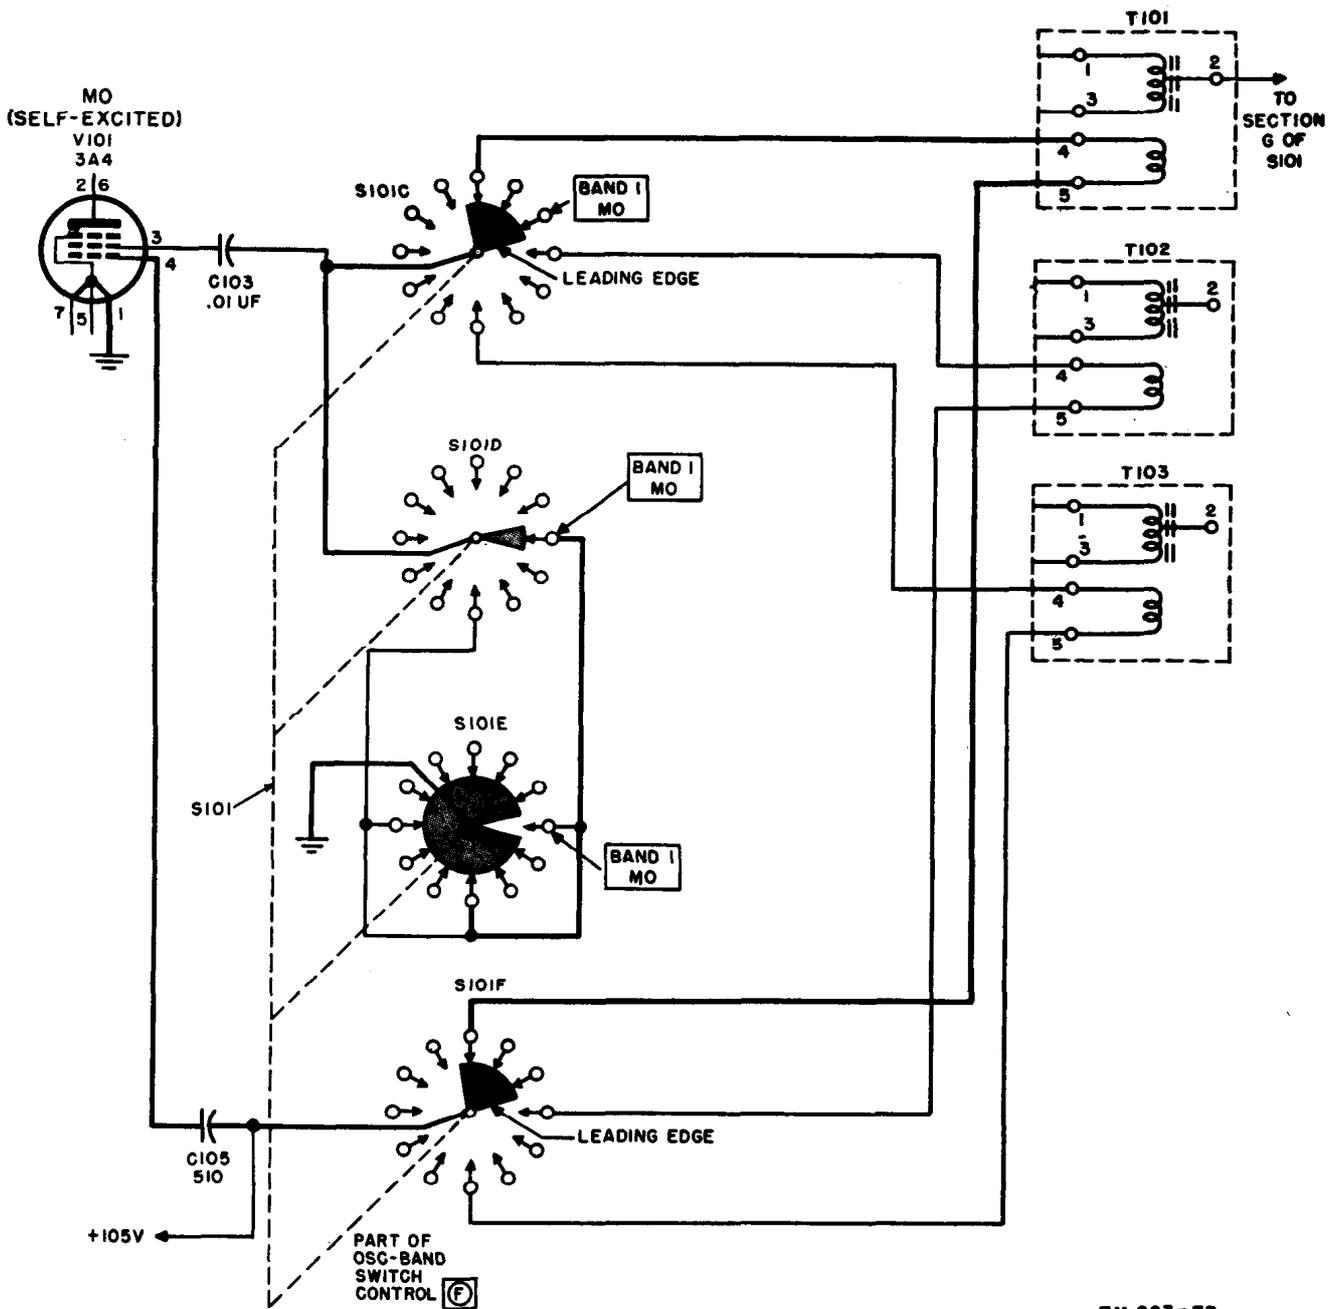

Figure 72. Mo (self-excited), switch sections S101C, S101D, S101E, and S101F, simplified schematic diagram.
- (3) *Switch section S101C* (fig. 72). Section C of S101 selects the proper grid circuit coil for the frequency selected. This is done in conjunction with switch sections S101D, S101E, and S101F which connect the coil selected to the grid by capacitor C105. Since the entire bank of switches is ganged, the grid coil is automatically connected to the grid circuit. By following the weighted line, starting at the control grid of V101, the entire grid circuit path may be traced through the various switches.
- (4) *Switch section S101D* (fig. 72). Section D of S101 connects the bottom (cold) end of the grid coil to ground through section E, as shown in the figure.
- (5) *Switch section S101E* (fig. 72). The rotor of section E is permanently connected to ground and serves as the actual ground connection for the coil selected.
- (6) *Switch section S101F* (fig. 72). Section F of S101 connects the selected